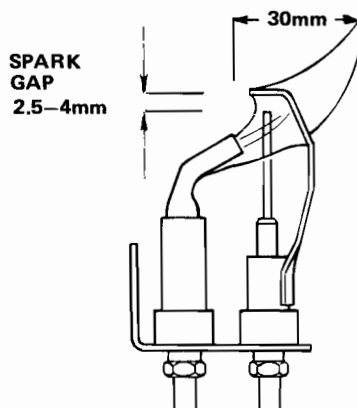

FIG. 30 PILOT BURNER SPARK GAP TOLERANCES
The pilot is pre-set and no adjustment is required. The pilot flame envelope should cover the electrode tip and spark earthing strip see FIG. 30. If the pilot flame is not as illustrated, remove and clean the pilot as described in the Servicing Instructions Section 3, PILOT BURNER, Page 22.
- H. Ensure that the spark gap is as illustrated in FIG. 30.
6. Replacement is the reverse of removal. On re-assembly ensure that the spark gap is as illustrated in FIG. 30.